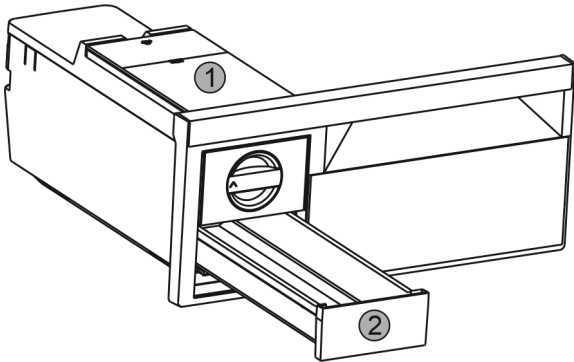

Fig. 54
- ▶ Take out the water tank Fig. 54 (1) and ice cube drawer Fig. 54 (2).